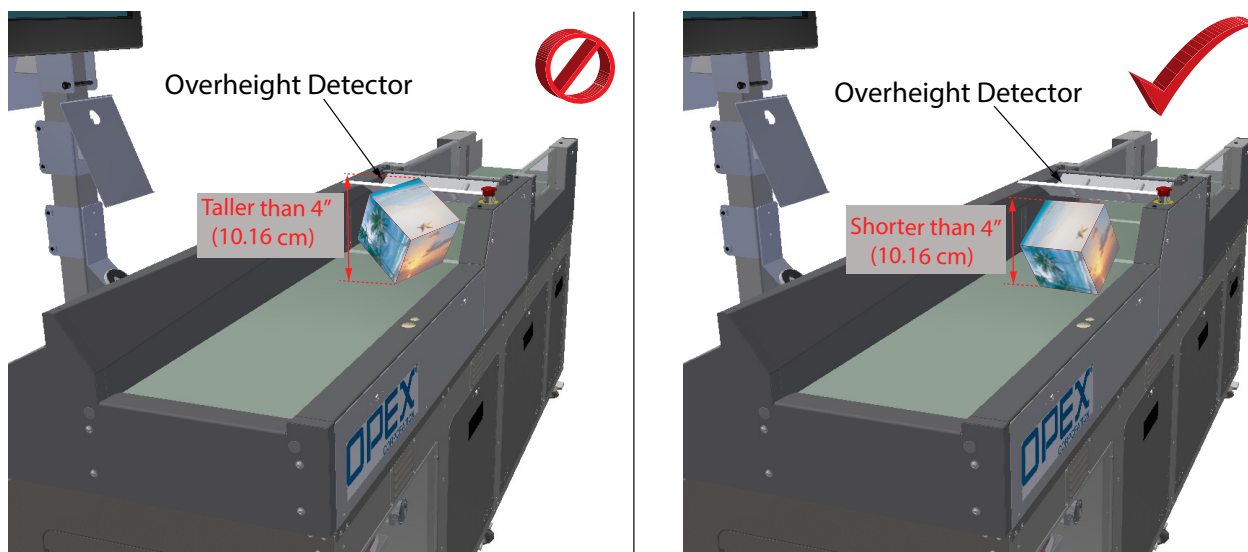
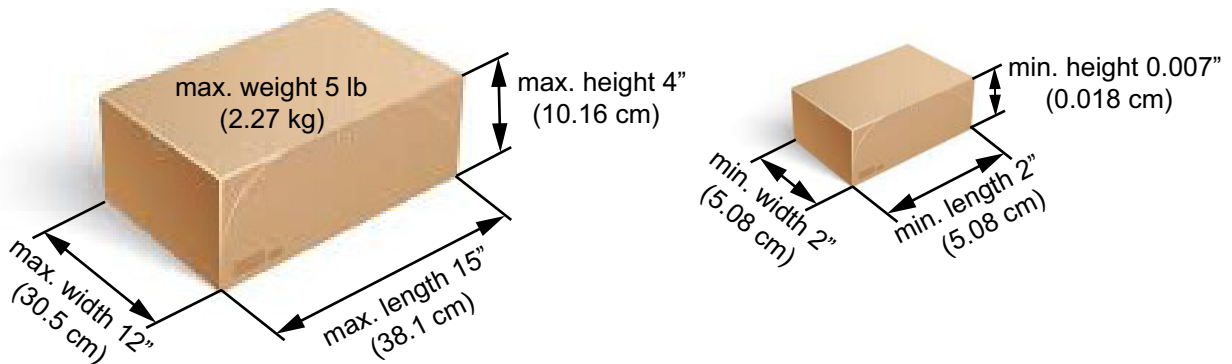

Figure 4-24: Rotating Item That is Too Tall
Figure 4-29: Specification Limits
Only if the item's specified limitations are not exceeded as defined in Figure 4-29 on page 140, the item can be rotated so that it is just a little bit shorter than the 4 inches to resume the run (see Figure 4-24).
- Ensure the specified limitations are not exceeded (see Figure 4-29).
Note: Ensure that the item’s specified limitations are not exceeded as defined in Figure 4-29 on page 140